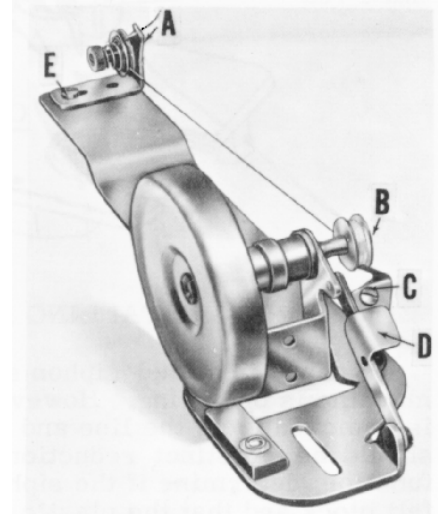

Fig. 6
Thread the bobbin winder by leading the thread from the supply down through the eyelet (A, Fig. 6), down between the tension discs, and under the tension post. Press an empty bobbin on the winder shaft (B), up to the stop, wind the end of thread around the bobbin a few turns in a clockwise direction and press downwardly on hand lever (D) until pulley is moved into contact with machine belt, and is locked in that position. When the machine is operated, the bobbin will be rotated and filled until the thread engages the automatic throw-out member, which disengages the pulley. The extent to which the bobbin is filled can be varied by regulating the screw (C).